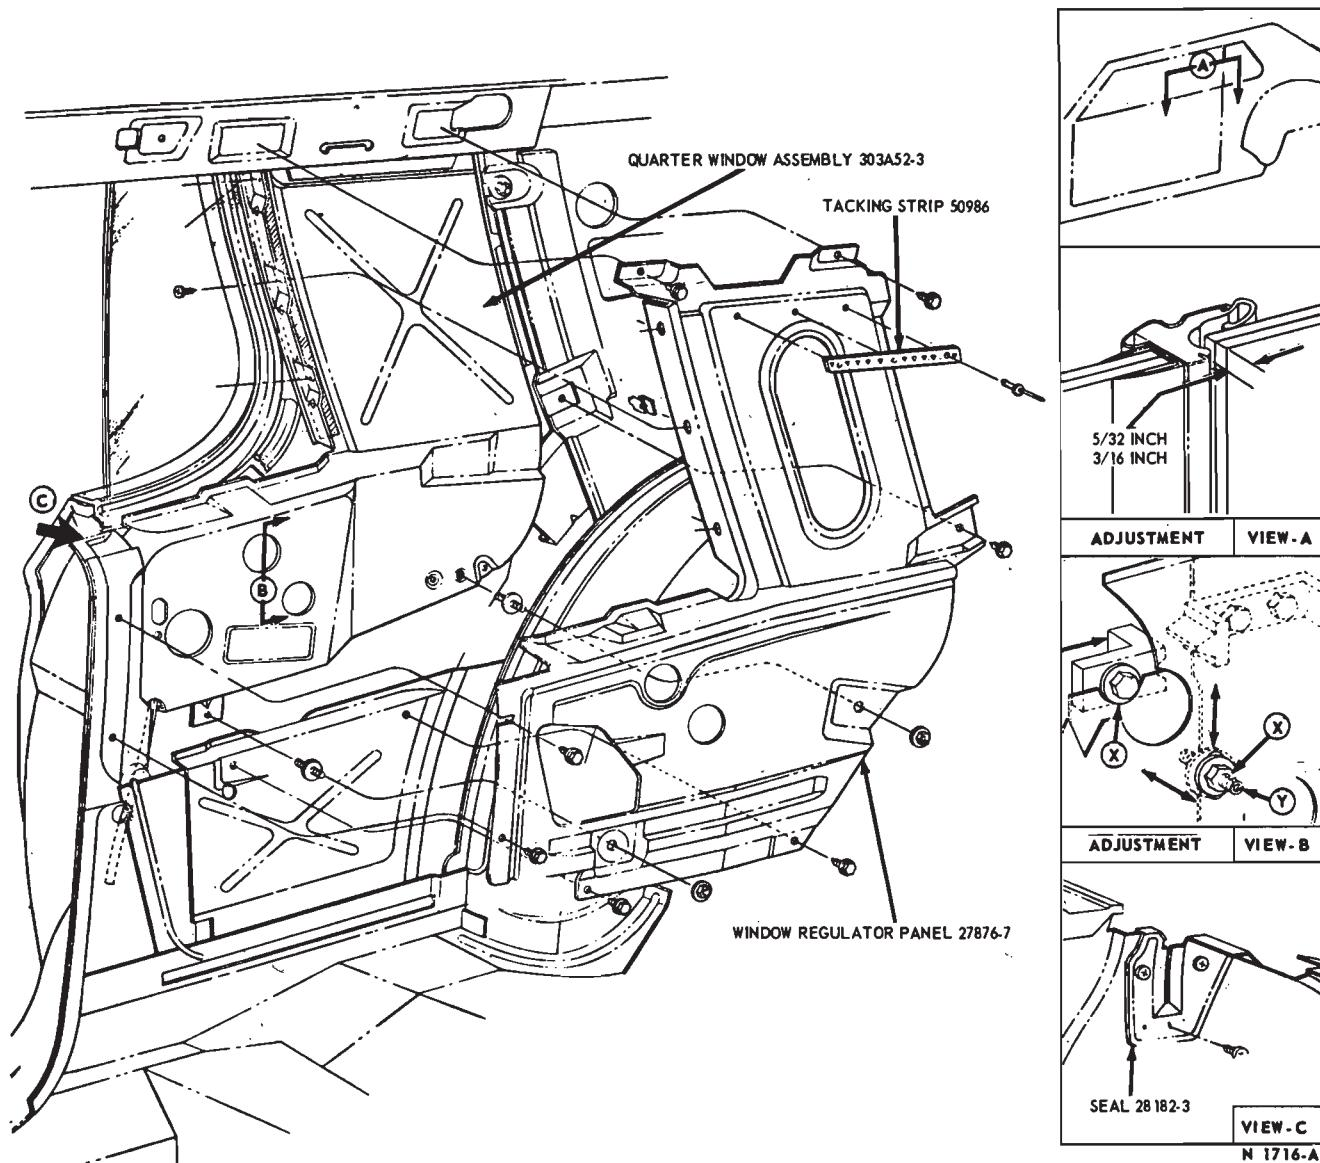

FIG. 7—Quarter Window Installation—Continental Mark III
3. Loosen the screw and washer assembly X (Fig. 7) and move the window fore or aft to obtain a 5/32 to 3/16 inch parallel gap between the quarter window and the door window.
4. Loosen the two nuts Y (Fig. 7) and move the window up and down as required for a proper fit to the roof rail weatherstrip and to obtain a parallel gap to the door window.
5. Turn the two set screws Z (Fig. 7) in or out to obtain a proper fit